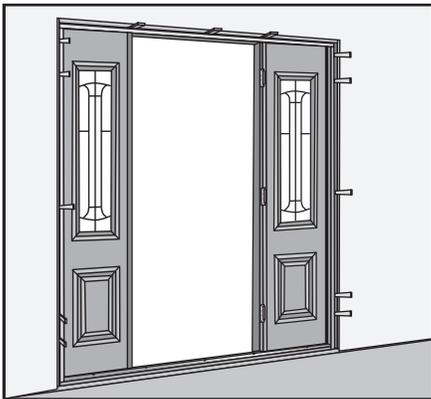
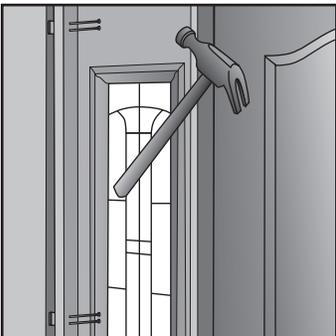

Fig. 22
Fig. 28
#### B. SYSTEMS 4 & 5 (**Fig. 22**); additional shimming as follows:
- Anchor jamb legs by driving a minimum of two 3" finish nails through the exterior face of the jamb into the stud at both 2" and 30" from the top and bottom of the unit (**Fig. 28**). Refer to **Fig. 22** for nailing locations. Additional anchoring locations may be necessary depending on size of the unit.